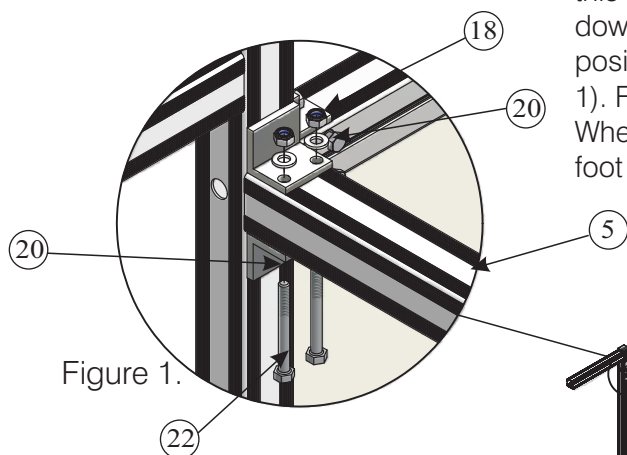
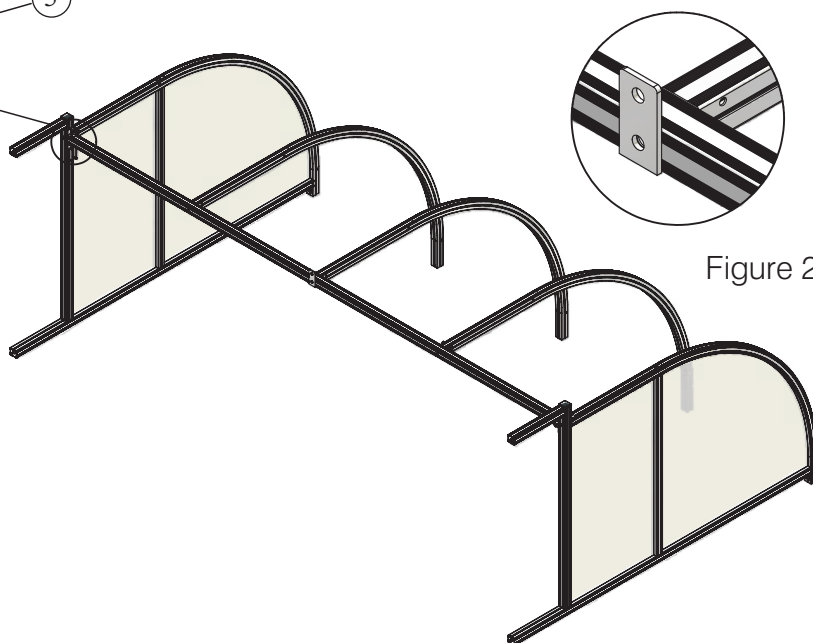

Figure 1.
Figure 2.
1.) Attach the backbar (5) by sliding in-between the brackets on the sideframes and line up the holes. You will need 3 people for this as the sideframes need to be held with the uprights face down on the floor, as shown in Figure 2. When the backbar is in position, use 2 x BOL472 (22) to attach to the sideframes (Figure 1). Fix with a plastic washer (20) both sides and a nylock nut (18). When doing so, make sure the backbar is orientated so that the foot plate in the middle is pointing up towards the sky (Figure 2).